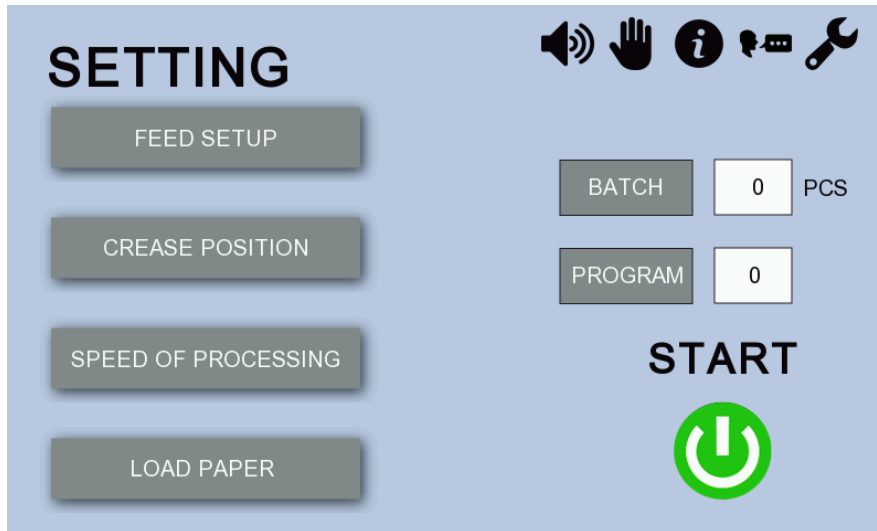
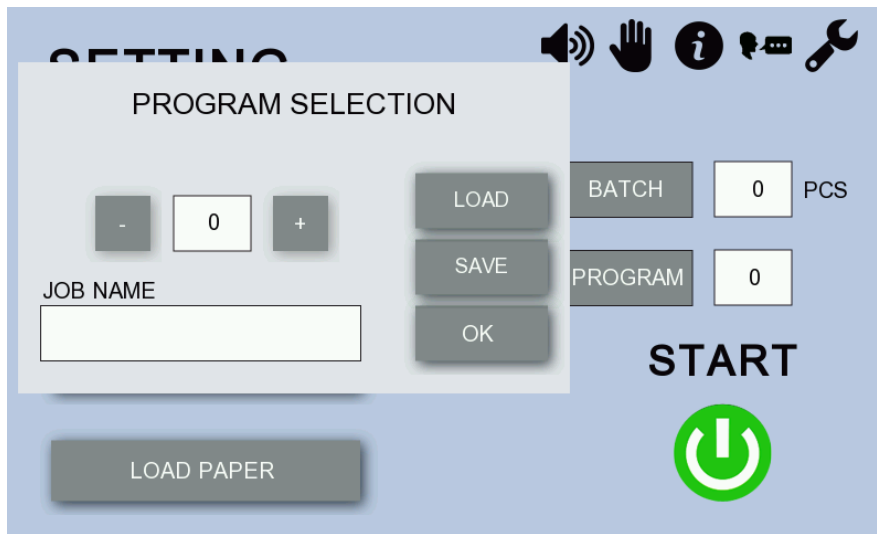
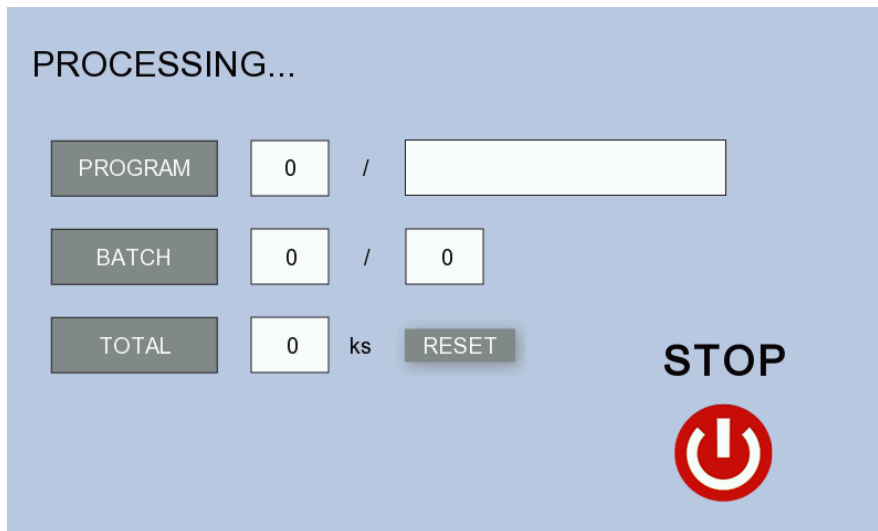
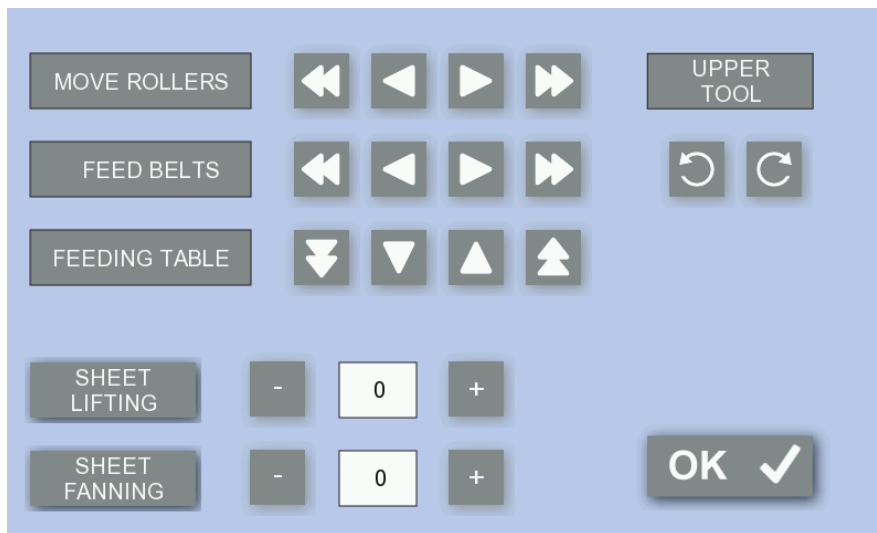

Fig. 14: "SETTING" Screen
Fig. 23: “PROGRAM SAVING AND LOADING” Screen
Fig. 24: “WORKING CYCLE” Screen
Fig. 26: “MANUAL CONTROL” Screen
Press **FEEDING** on the “SETTING” screen (Fig. 14) to display the following menu.
Press **CREASE POSITION** on the “SETTING” screen (Fig. 14) to display the following menu.
similarly for other types of fold). A single sheet is run through the machine without creasing; the machine measures the sheet and saves the sheet length in the memory. Values are displayed in their respective fields when the sheet has passed through. Then start the test by pressing . Use the field over  to enter the number of test sheets if required; the default value is 1. During the test the screen shows the sheets yet to be processed in the test. Once the test is completed, it is recommended to check the measured length before processing the rest of the batch. If the crease is not precisely at the required distance, correct the distance manually. Then press **OK** to return to the “SETTING” screen (Fig. 14) and press **START**  to run the working process.
Press **SPEED OF PROCESSING** on the “SETTING” screen (Fig. 14) to display the following menu.
Press the numeric icon next to the field **BATCH** on the “SETTING” screen (Fig. 14) to display numeric keypad (Fig. 22). Use the numeric keypad to set the batch (= the number of sheets to be processed by the machine in a single cycle) and press **ENTER** to confirm. Enter **0** if you wish to switch the batch off. Batch processing may be interrupted in three ways:
program. Press the numeric icon next to the field **PROGRAM** on the “SETTING” screen (Fig. 14). The program saving and loading menu (Fig. 23) is displayed. Use the **+** and **-** keys to list values between **0** and **5**. You can save your jobs under **1–5**; value **0** indicates no program is saved in the memory.
Adjust the feeding table (11) according to the instructions in Section 7.1. There must be a minimum gap between the side guides and the pile of paper. The machine’s design allows loading a pile of paper of up to 2.75” in height. Adjust the distance of the back stop (5) on the delivery table (7) according to the size of the sheet. Press **START**  on the touch screen (Fig. 14). The machine starts running and the touch screen switches to the “WORKING CYCLE” screen (Fig. 24). The **STOP** icon  and information about the program, the batch and the number of processed sheets are displayed on the touch screen.
Manual control is mostly used when replacing the tools or when loosening jammed paper from the machine. Press  (manual control) on the “SETTING” screen (Fig. 14) and the following menu is displayed (Fig. 26). Press the move forward/backward icons ,  next to the **MOVE ROLLERS** field to set the machine’s rollers running. Icons  and  define the continuity of the run of the rollers.  – rollers are turning only if the arrow is held.  – rollers start running and rotate until the icon is pressed again. The **FEED BELTS** (feeding strips running) and **FEEDING TABLE** fields work similarly. Press **SHEET LIFTING** and **SHEET FANNING** to run the respective functions. Use  (tool backwards) under the **UPPER TOOL** field if the perforation/creasing force gets too high and the top bar (23) remains in the lower position. Press  to unlock the tool and adjust the thrust by using the tool thrust regulation screws (20). Activate  (tool forwards) to make a trial stroke. Refer to Section 7.5 for how to use the icons of the **UPPER TOOL** field. Press **OK** to go back to the “SETTING” screen.